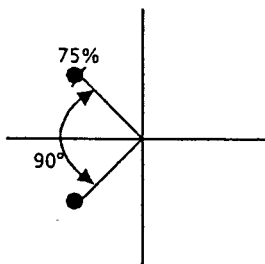

Fig. 4-8
- Adjust VR21 and VR25 so that the two burst vectors are on the 75% position on the vectorscope and the phase of the two burst vectors becomes 90°. (Fig. 4-8)